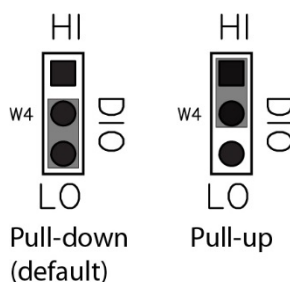

Figure 7. Pull-up/down jumper configuration
5. Configure the **DIO** jumper for pull-up or pull-down, as shown in Figure 7.